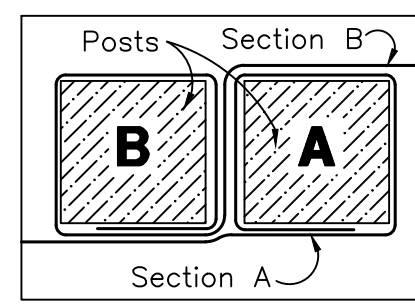

Figure 1: Top View of Roll-to-Roll Connection
- Adjacent rolls of silt fence should be joined by nesting the end post of one fence into the other. Before nesting the end posts, rotate each post until the geotextile is wrapped completely around the post, then abut the end posts to create a tight seal as shown in Figure 1.